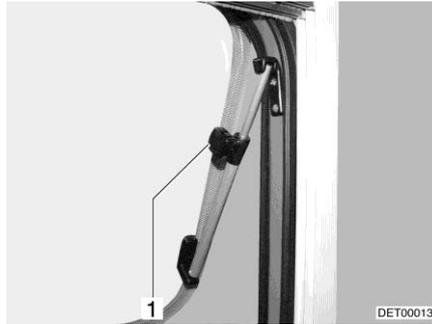

Fig. 70 Hinged window with rotary hinge
- Hinged window with rotary hinge: Open the hinged window until the required position has been reached and use knurled knob (Fig. 70,1) to secure in position.
- Hinged window with rotary hinge: Turn knurled knob (Fig. 70,1) until the latch is released.